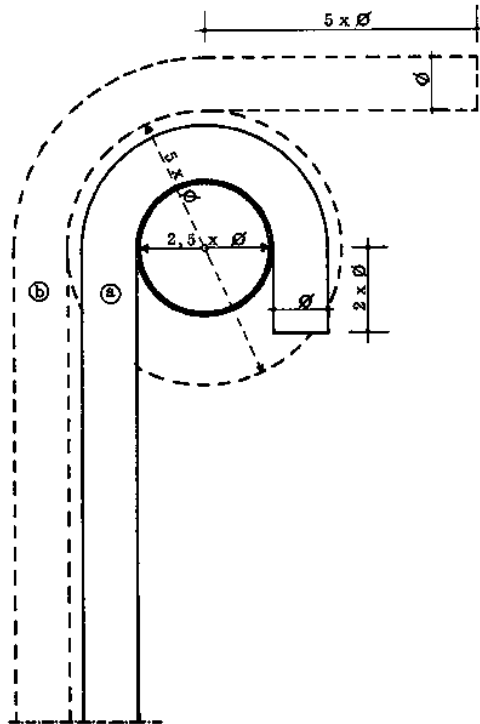

Fig. 2
- The minimum length for the straight end part of the hooks is: 2 times the rod diameter for circular bars; and 5 times the rod diameter for ribbed bars and tentor bars (Figs. 2 & 3).